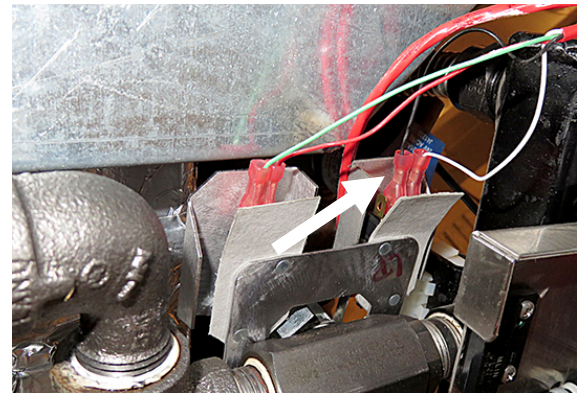

Figure 11
13. Locate the dispose handle switches assembly. They are behind and above the street elbow installed in step 9 (see Figure 11).
14. Using needle nose pliers, remove the black wire from the switch closest to the rear of the fryer (see Figures 11 and 12).